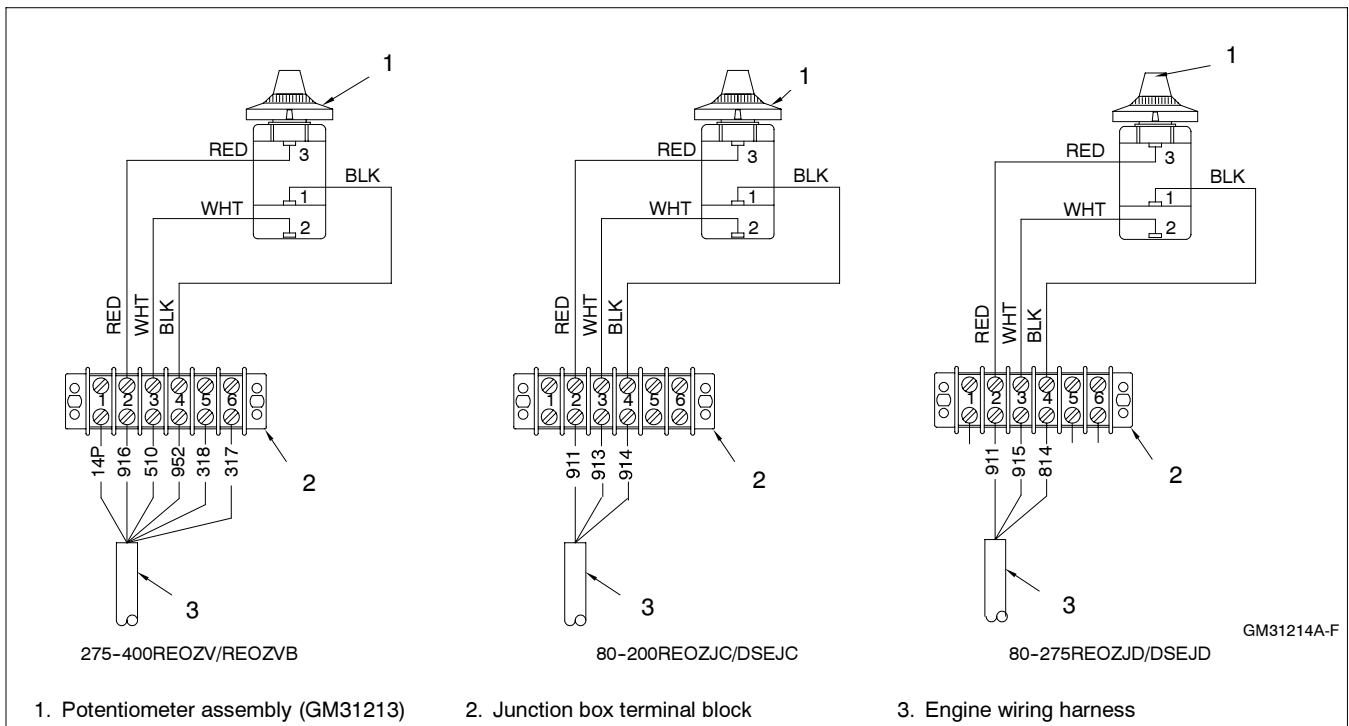
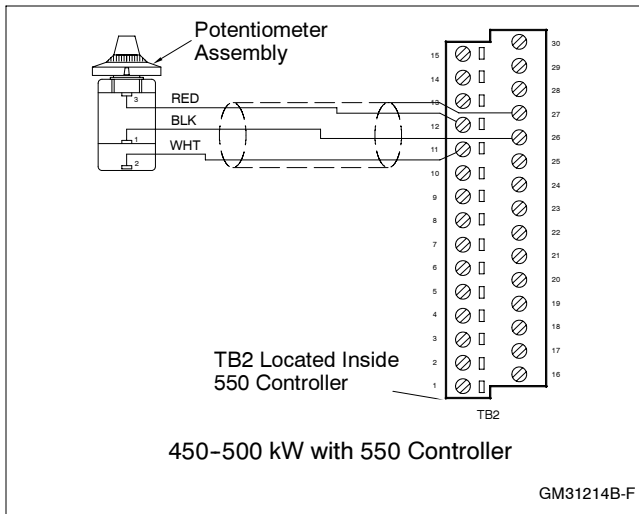

Figure 7 Speed Adjusting Control Wiring Diagram
Figure 8 Speed Adjusting Control Wiring Diagram
- 3.2 Connect the red, black, and white leads to the governor controller terminal strip as shown in Figure 7 (or see Figure 8 for terminal strip connections on the 550 controller with 450/500REOZVB models only).